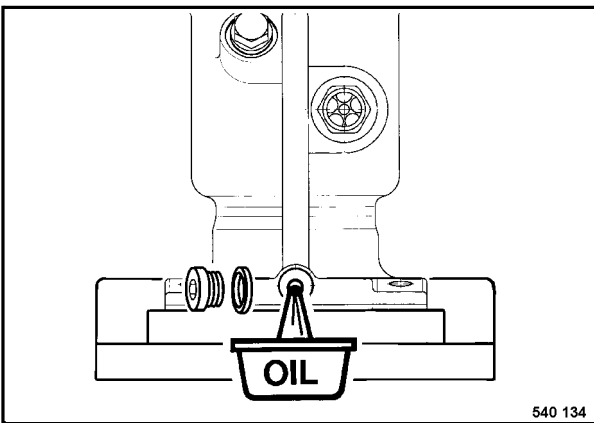

Fig. 4
- Clean the oil drain plug (Fig. 4), screw it out and drain the oil off.